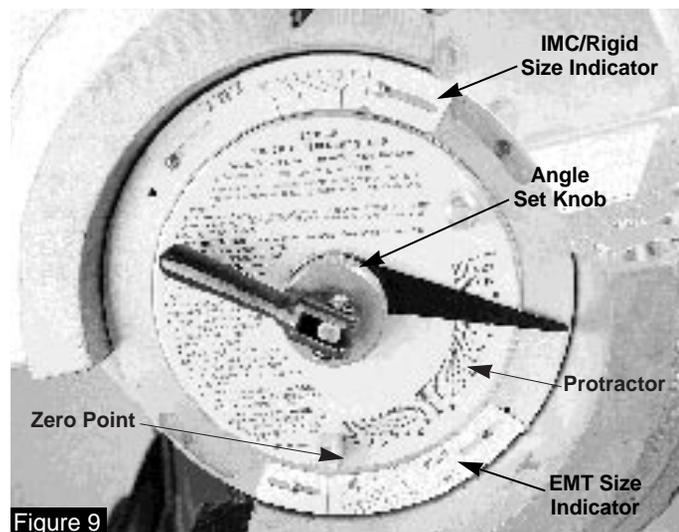

Figure 9
- a. Lift the angle knob locking handle to release the angle set knob and angle indicating disc. Use the two small knobs to rotate the angle disc, clockwise (figure 9).
- b. Set the bender for specific conduit size by turning the angle disc until the red line and pointer are on an outer size indicator mark which matches the size conduit being bent (figure 9). Be sure the correct size indicator is being used (EMT, IMC, or Rigid).
- c. Move the bend angle knob (figure 9) until the flat edge of the pointer is on the line indicating the exact degree of bend desired. Lower the center handle to lock the pointer and scale and to prevent inadvertent movement during bending.